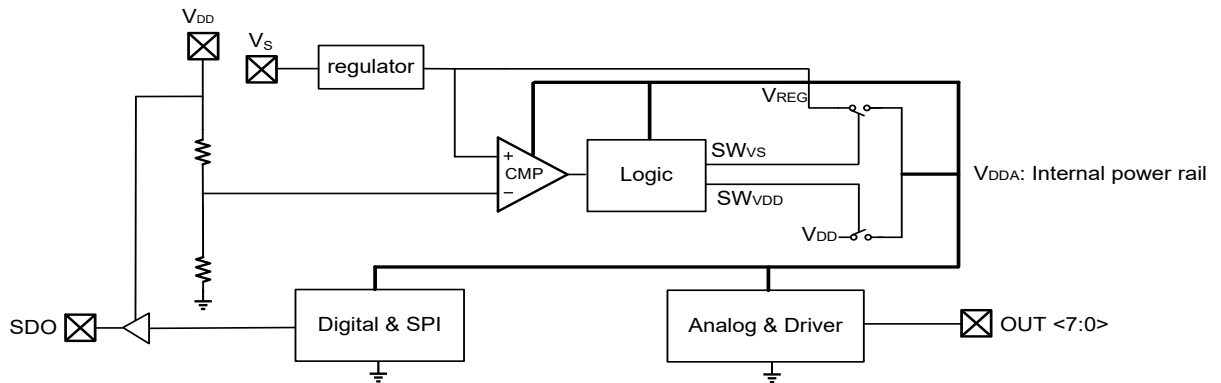

Figure 5.1 NSD56242 Internal Power Supply concept
**Figure 5.1** shows a basic interaction between supply pins  $V_S$  and  $V_{DD}$ , the output stage drivers and SDO supply line.